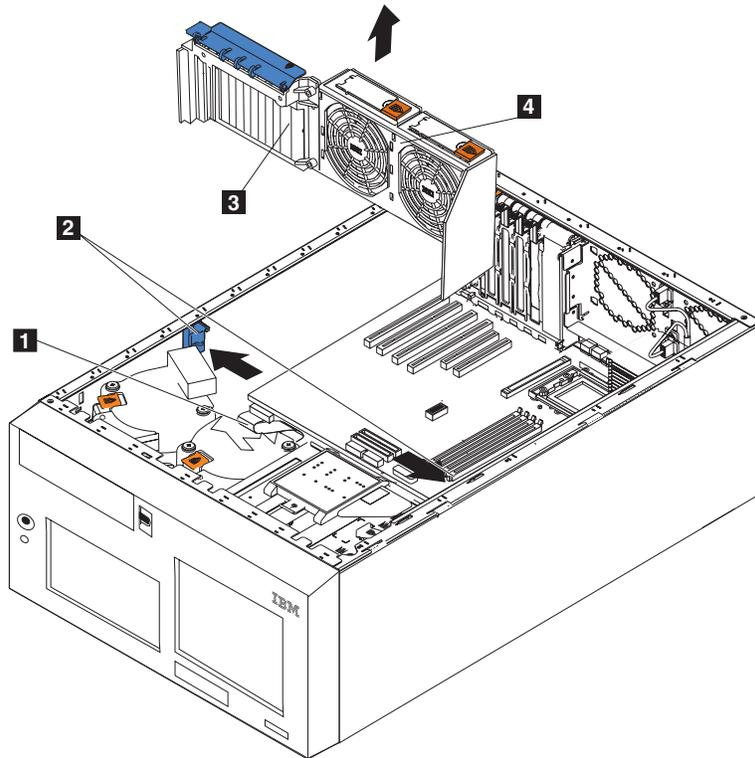

Figure 29. Removing the adapter-support bracket
8. Remove the adapter-support bracket (see Figure 29).